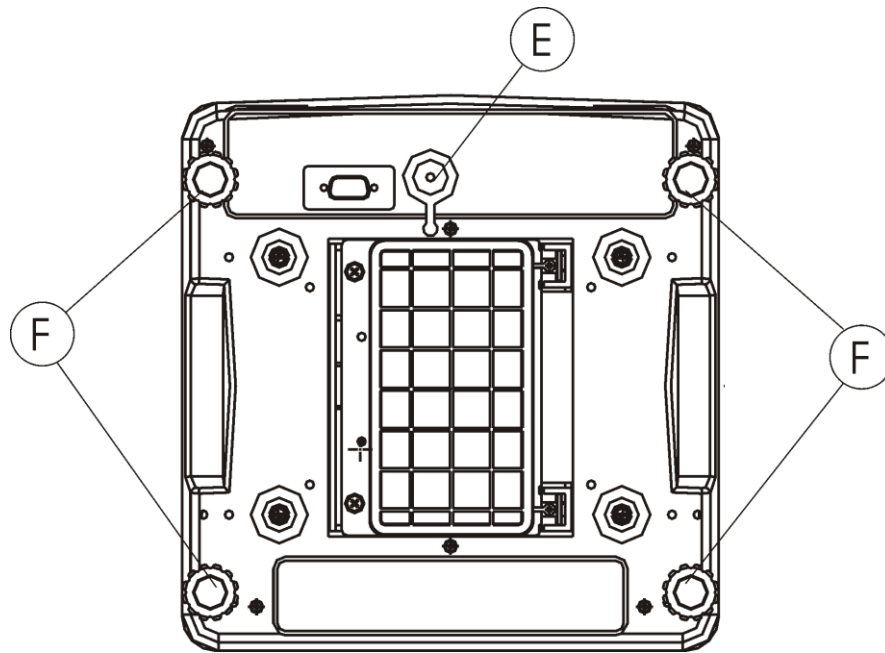

FIG 2
- c. After the battery is fully charged, remove the adaptor from the scale. Apply the battery cap (FIG 2 E) to seal the DC input jack of scale.